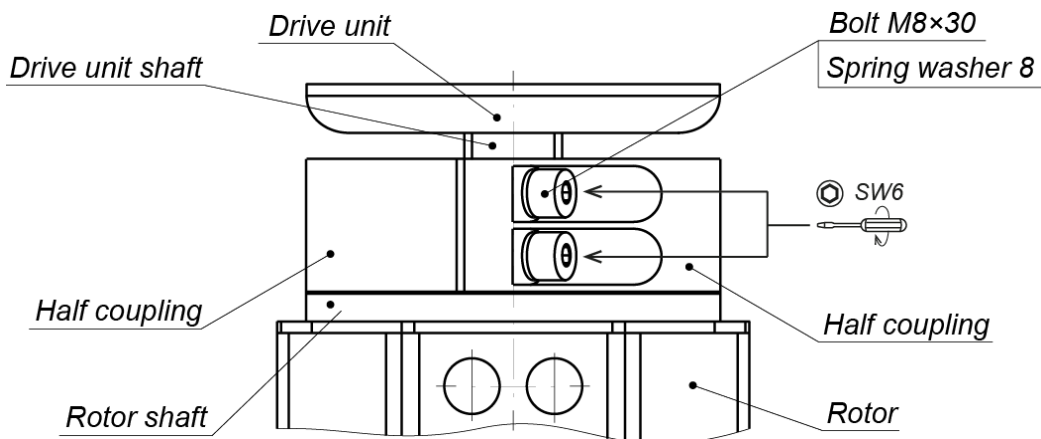

Figure 18. Juncture of the operating mechanism shaft with the rotor shaft by the union joint
- Join together the upper rotor shaft with the shaft of the drive unit of operating device with two half couplings, four bolts M8×30 and spring washers (hex-nut wrench SW6) (Fig.18). Be careful, half couplings are very heavy, do not drop them to avoid injuries!
2. Unscrew 4 bolts M8 from the union joint (4) and take off the half couplings (Fig. 18). Be carefully! Keep the rotor and half couplings from falling down.